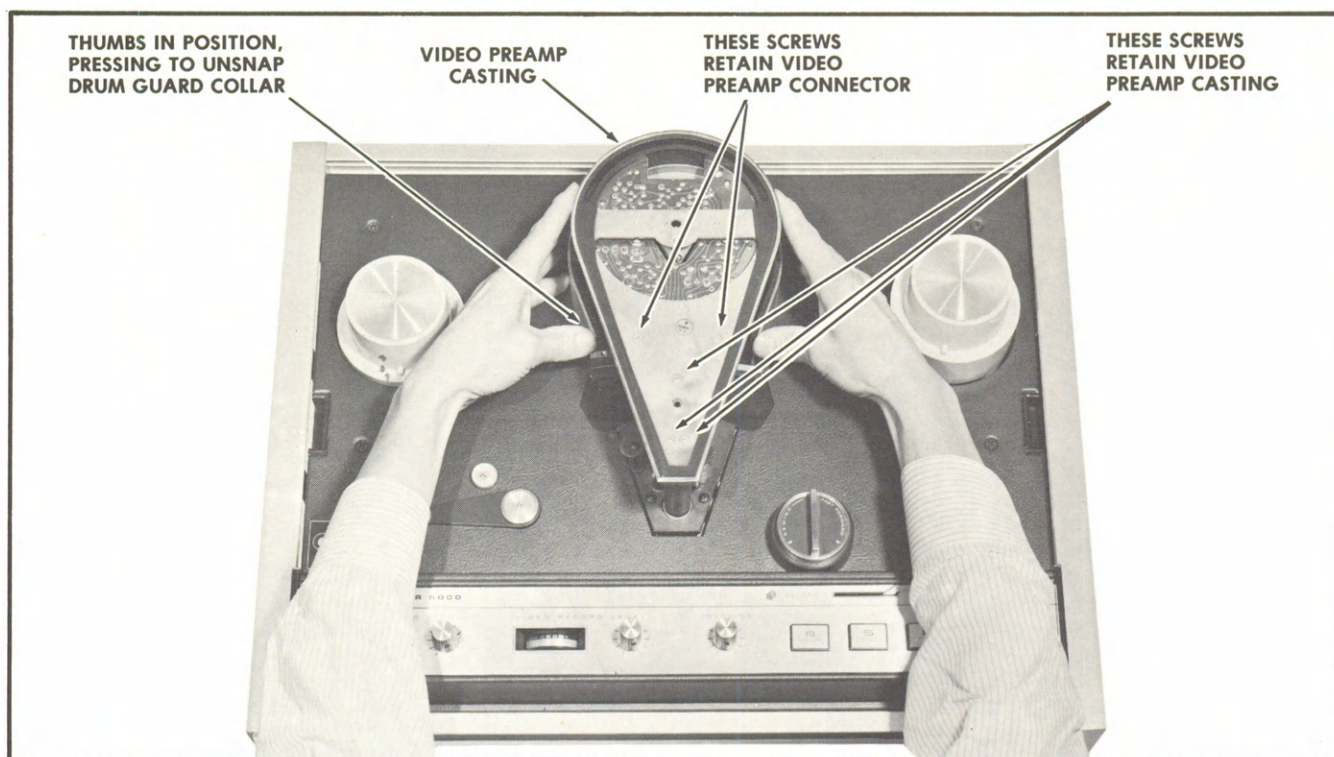

Figure 5-10. Removal of Preamp Casting
6. Remove drum guard collar by pressing front ends of collar inward, and then lifting it out. (See Fig. 5-10)
2. Remove the single Phillips head screw (Figure 5-10) in the center of the head cover plate and remove the head cover plate.
3. Remove the Drum Guard Collar as shown in Figure 5-10.